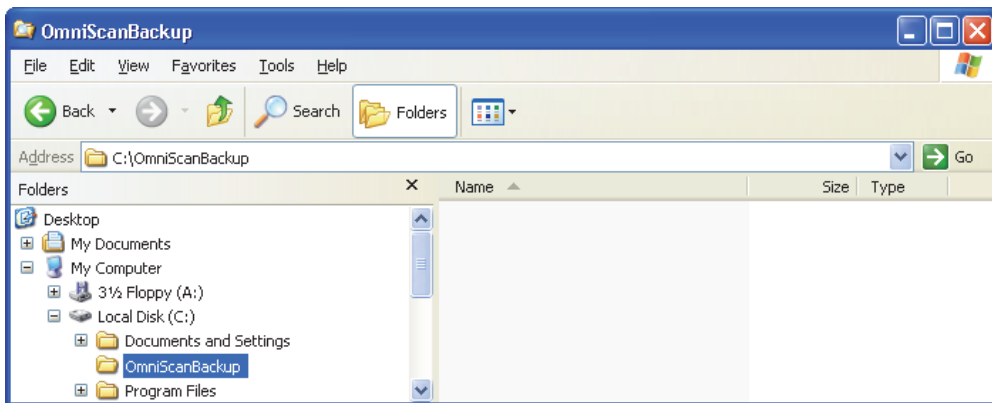

Figure 4-24 Creating a backup folder on your computer
- Using Windows Explorer, create a backup folder on your computer (for example: C:\OmniScanBackup, as shown in Figure 4-24 on page 99).